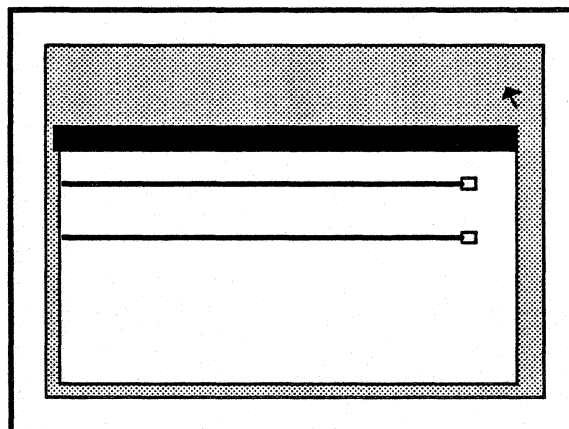

Figure 3.18
- 4) Press the left mouse button to stretch the sides to the new size. See figure 3.18.